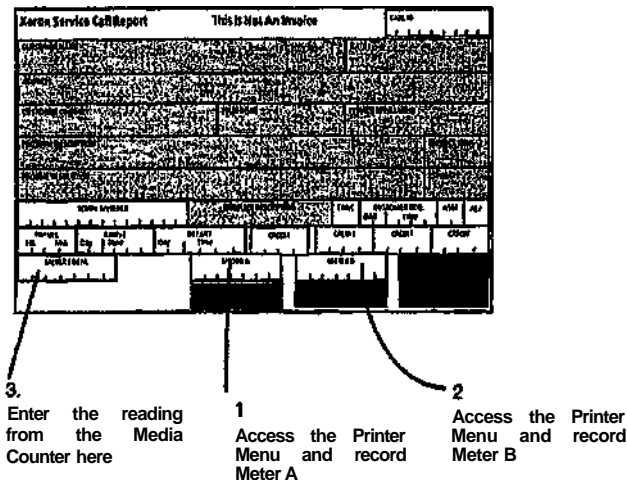

Figure 1. Recording the Print Count Readings
4. (Fig 1) Record the Print Count Readings on the Service Call Report.